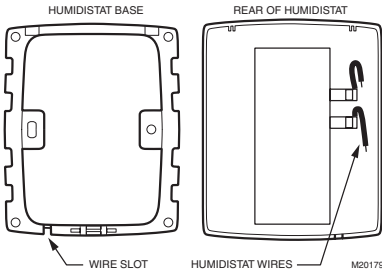

Fig. 12. Humidistat base and rear view.
7. Connect the low-voltage wires to the leads and replace the H8908 case. See Fig. 12.